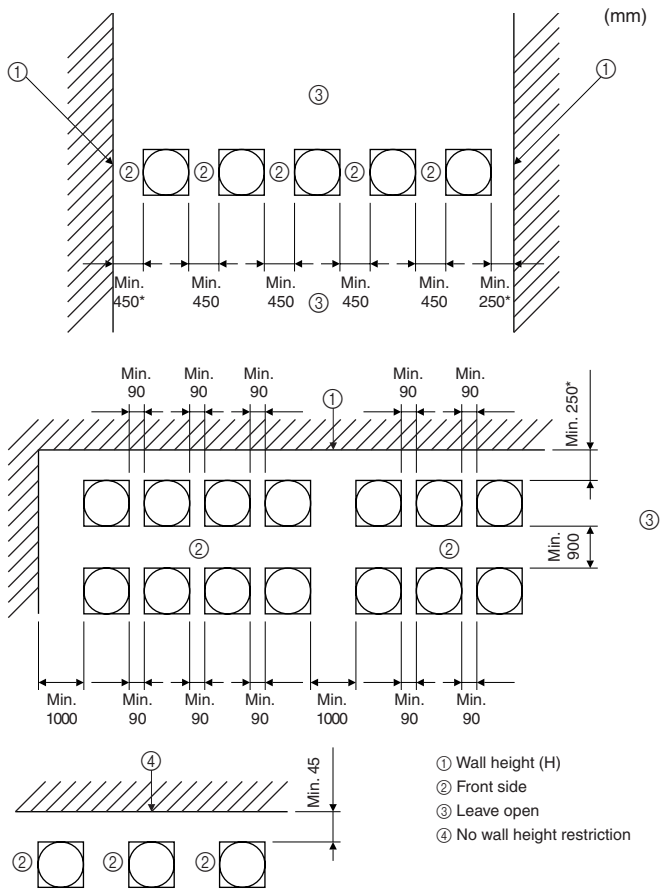

Fig. 2-8
2.4.2. When installing multiple outdoor units (Fig. 2-8)